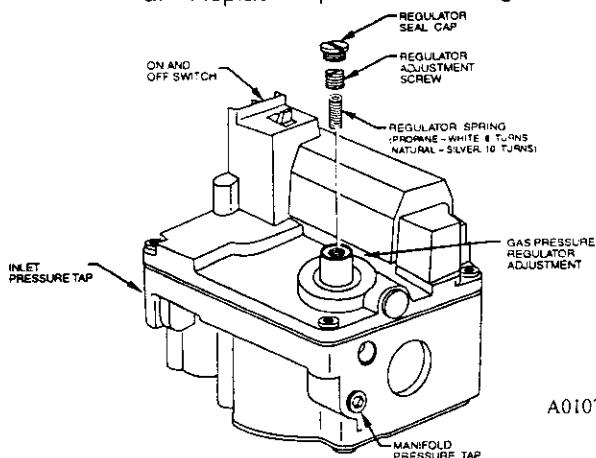

Fig. 5A—Single Stage Gas Valve
2. Remove regulator seal cap. (See Fig. 5A.)
2. Remove 1/8-in. pipe plug from manifold pressure tap on downstream side of gas valve. (See Fig. 5A or 5B)
8. Remove manometer and replace manifold pressure tap plug. (See Fig. 5A or 5B)